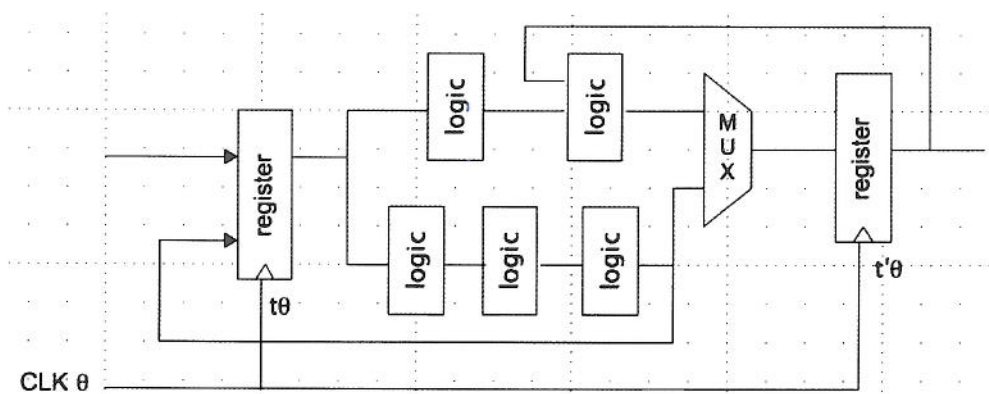

Figure 5.1
5. a) For the circuit in *Figure 5.1*, assume a two unit delay through the register and logic blocks (i.e.,  $t_R = t_L = 2$ ). Assume that the registers, which are positive edge-triggered, have a setup time  $t_S$  of 1 and zero hold time. The delay through the multiplexer  $t_M$  equals  $t_R$ .